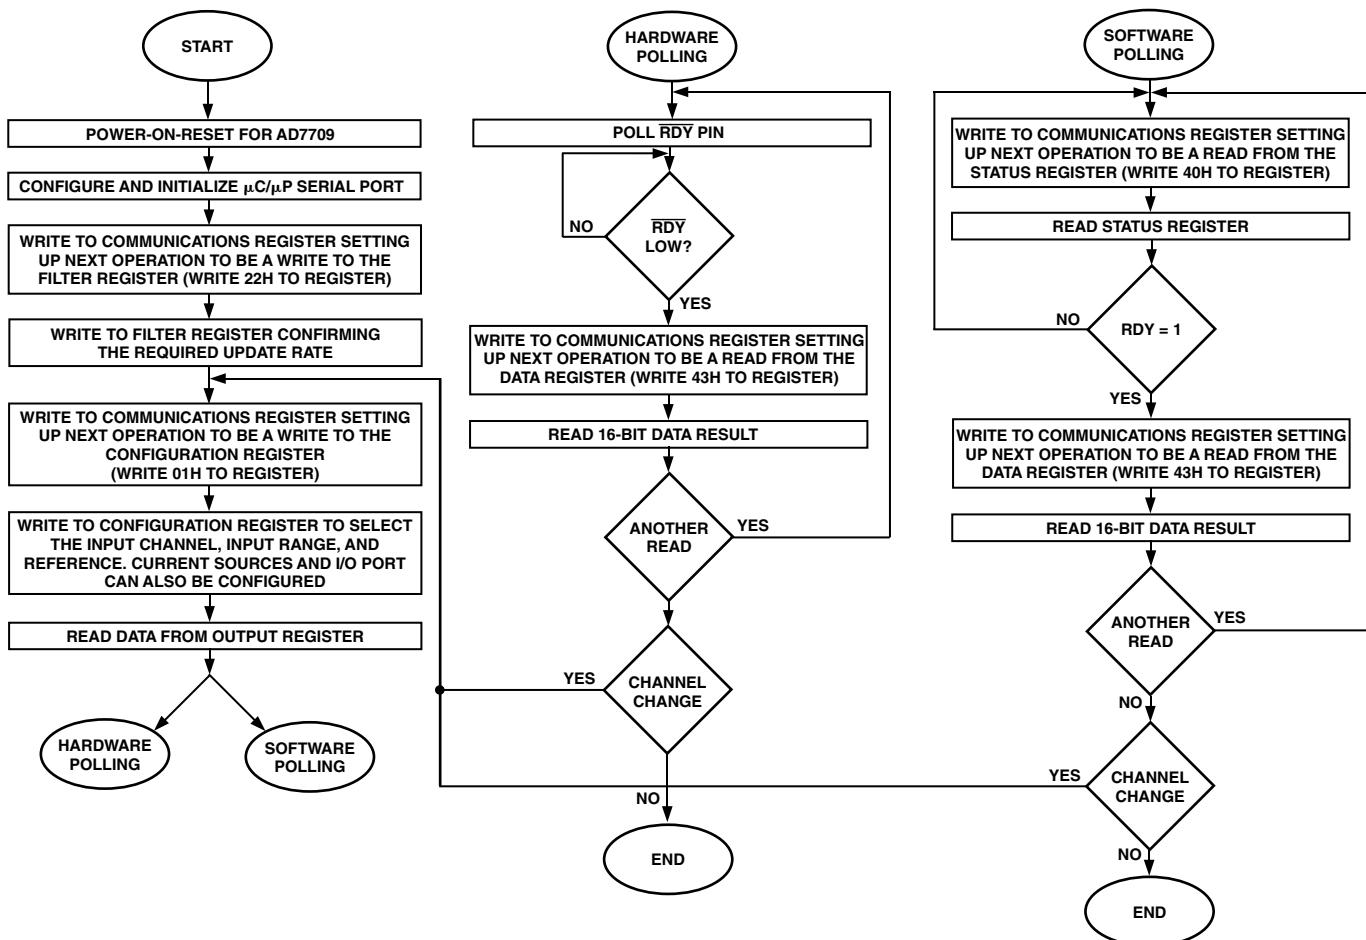
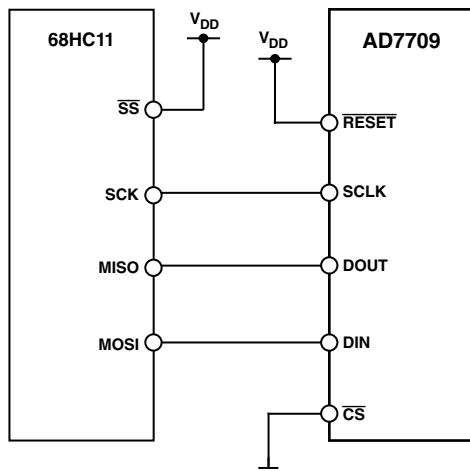

Figure 10. Flowchart for Initializing and Reading Data from the AD7709
Figure 11. AD7709-to-68HC11 Interface
Figure 10 outlines a flow diagram of the sequence used to configure all registers after a power-up or reset on the AD7709. The flowchart shows two methods of determining when it is valid to read the data register. The first method is hardware polling of the RDY pin and the second method involves software interrogation of the RDY bit in the status register. The flowchart details all the necessary programming steps required to initialize the ADC and read data from the ADC channel following a power-on or reset. The steps can be broken down as follows:
3. When configuration is complete, the user needs to determine when it is valid to read the data from the data register. This is accomplished either by polling the RDY pin (hardware polling) or by interrogating the RDY bit in the STATUS register (software polling). Both are shown in Figure 10.
The AD7709 flexible serial interface allows for easy interface to most microcomputers and microprocessors. The flowchart of Figure 10 outlines the sequence that should be followed when interfacing a microcontroller or microprocessor to the AD7709. Figures 11, 12, and 13 show some typical interface circuits. The serial interface on the AD7709 is capable of operating from just three wires and is compatible with SPI interface protocols. The 3-wire operation makes the part ideal for isolated systems where minimizing the number of interface lines minimizes the number of opto-isolators required in the system. The serial clock input is a Schmitt-triggered input to accommodate slow edges from opto-couplers. The rise and fall times of other digital inputs to the AD7709 should be no longer than 1 μ s.
Figure 11 shows an interface between the AD7709 and the 68HC11 microcontroller. The diagram shows the minimum (3-wire) interface with CS on the AD7709 hardwired low. In this scheme, the RDY bit of the Status Register is monitored to determine when the Data Register is updated. An alternative scheme, which increases the number of interface lines to four, is to monitor the RDY output line from the AD7709. The monitoring of the RDY line can be done in two ways. First, RDY can be connected to one of the 68HC11 port bits (such as PC0), which is configured as an input. This port bit is then polled to determine the status of RDY. The second scheme is to use an interrupt driven system, in which case the RDY output is connected to the IRQ input of the 68HC11. For interfaces that require control of the CS input on the AD7709, one of the port bits of the 68HC11 (such as PC1), which is configured as an output, can be used to drive the CS input.